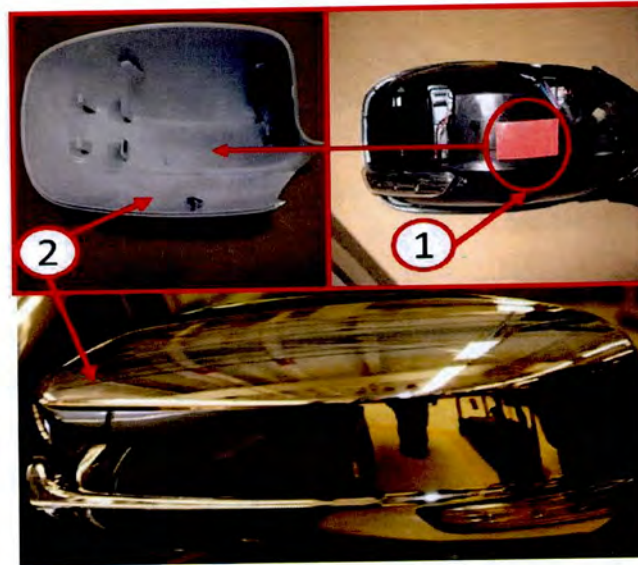

Fig. 7 Mirror Outer Shell Installation
NOTE: Inspect the mirror shell cap (2) (Fig. 7) for any possible handling damage to the exterior of the shell and/or distortion or damage to the inner retaining tabs. If any damage has occurred to the exterior side of the shell it must be replaced.
16. Apply double sided tape (1) to mirror shell as shown if any retaining tabs are broken or distorted (Fig. 7).